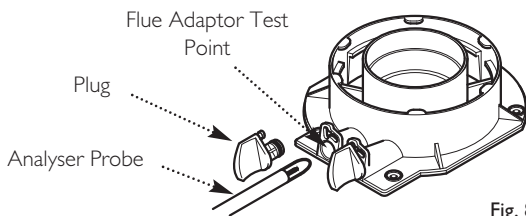

Fig. 83
7. Remove the plug from the flue adaptor test point. Insert the analyser probe and allow time for the reading to settle (Fig. 83).